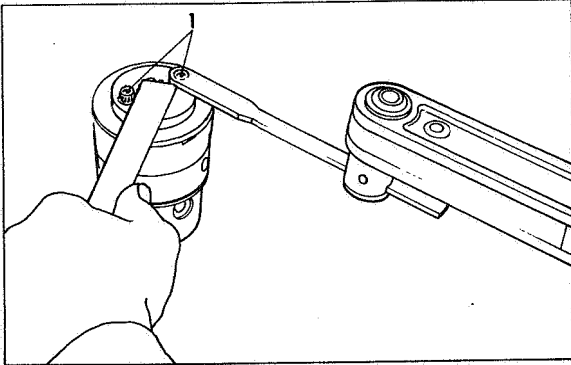

Fig 88 Tightening drive plate screws
Note: Drive plate screws (1) Fig 88 are tightened using a special technique with Spanner Tool Part No 7144-511A and an adaptor fitted in a torque wrench as illustrated. In use, the torque wrench handle and spanner must form a straight line with the handle extending away from the spanner. The distance between the centre of the adaptor and the centre of the ring spanner is 127 mm (5,0 in). With superseded Spanner Tool Part No 7144-511 the distance is 66 mm (2,6 in). See list of Torque Values, Page 40. Certain designs of torque wrench are not suitable for this operation. If the tools used are not kept in a straight line, the applied torque will be incorrect. Lift head and rotor assembly and screw transfer pump rotor finger tight into distributor rotor body.